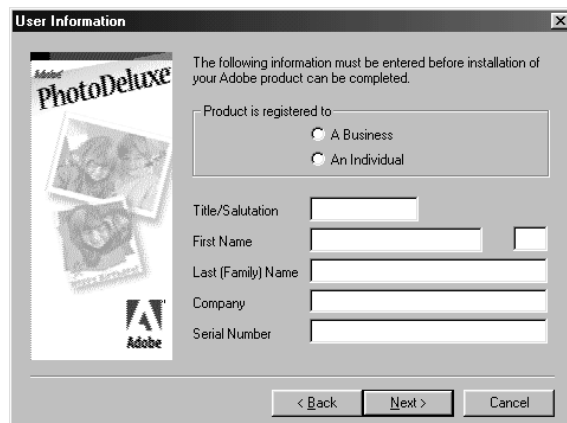

Figure 17: Installing Adobe PhotoDeluxe 2.0
8. Select 'Typical' and click on 'Next' to continue. A screen as in Figure 17 is displayed.